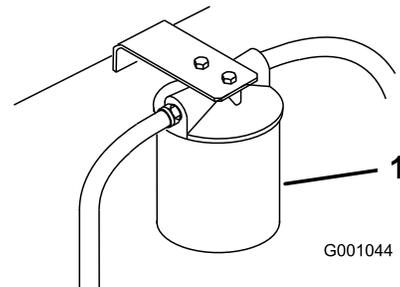

Figure 78
3. Place drain pan under filter, remove the old filter and wipe the filter adapter gasket surface clean (Figure 78).